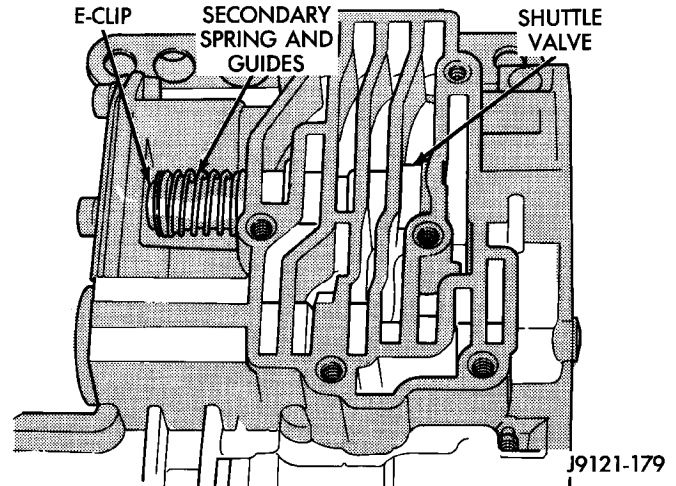

Fig. 66 Shuttle Valve E-Clip And Secondary Spring Location
- (3) Remove E-clip that secures shuttle valve secondary spring on valve stem (Fig. 66).